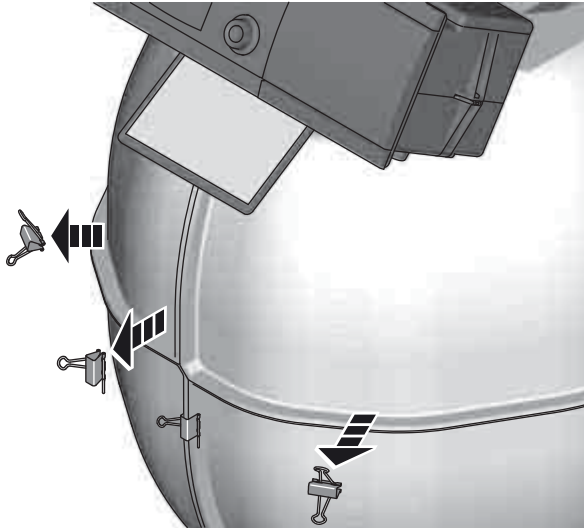

Fig. 9-3 Remove the holding clamps on the heat insulation layers
- Remove the holding clamps on both upper heat insulation layers (see fig. 9-3).